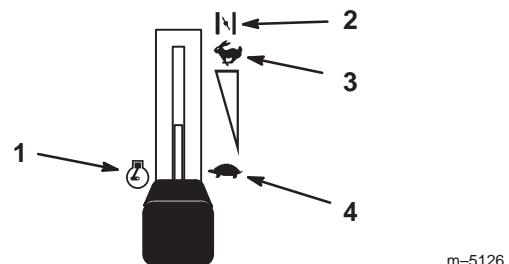

Figure 7
5. Move the throttle lever to Choke (Fig. 7) before starting a cold engine.
7. After the engine starts, move the throttle lever to between Fast and Slow (Fig. 7). Allow the engine to warm to 3 to 5 minutes before moving the throttle lever to Fast.
1. Move the throttle lever to Slow (Fig. 7).